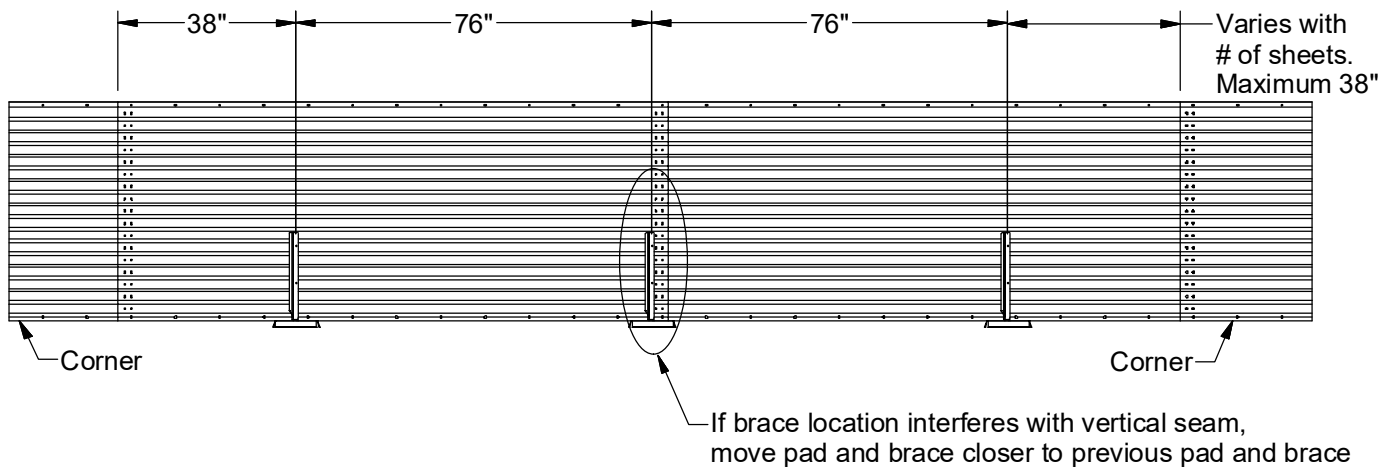

Fig 10 - ZGD Support Post Spacing for 17" and 24" (all systems), 34" (standard systems), 47" (SG < 1.0 standard systems)
4. Repeat steps 1-3 with the other sides. See Figure 10 for more details.